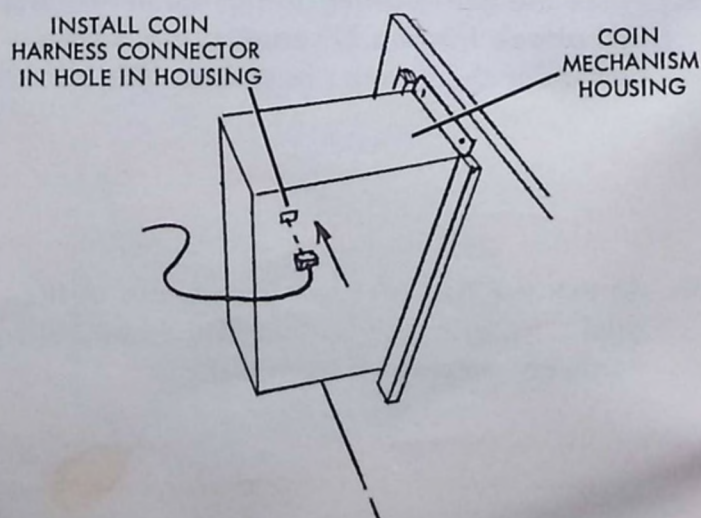

FIGURE 24
34. Before attaching the bed and apron assembly to the base assembly, lift the bed assembly up in order to plug the coin mechanism harness connector into the side of the coin mechanism housing as shown (Figure 24).